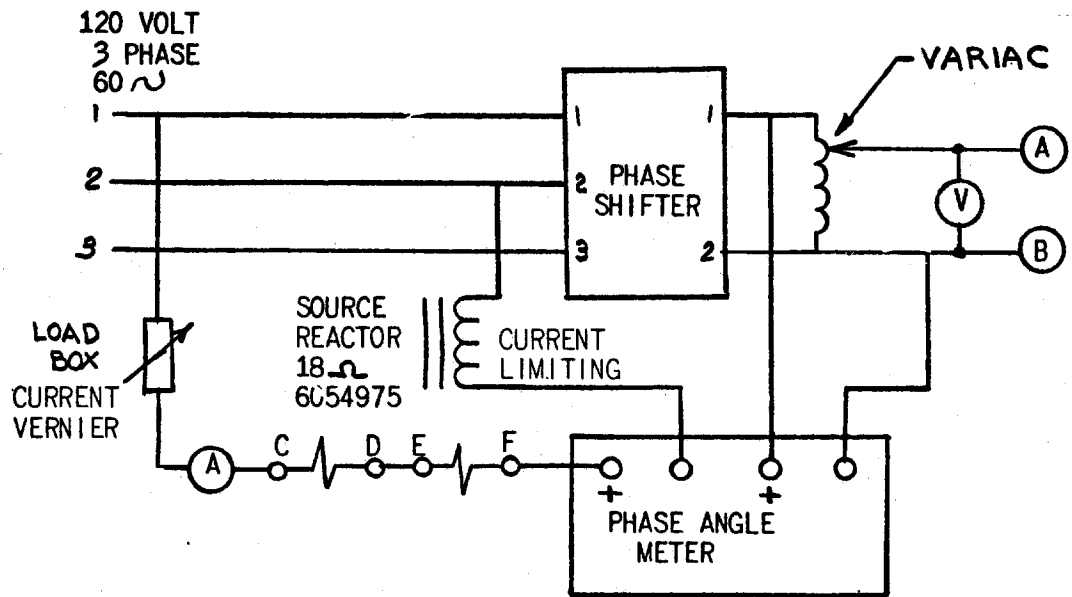

Fig. 14 (178A7029-3) Phase Shifter Test Circuit
As stated earlier the angle of maximum reach, ϕ , can be adjusted by changing the setting of plug X on the F126 printed circuit card. The angle is typically factory adjusted to produce a 75° angle of maximum reach. In the Type SLY51B relay the angle of maximum reach can be adjusted to 60°. A check of the angle of maximum reach can be made by using the test circuit of Figure 14. The recommended procedure is as follows:
- (a) Determine what test voltage V in Figure 14 is necessary to produce output at the relays maximum reach angle for 5 amperes of current, and the particular tap setting.
- (c) Adjust the variac in Figure 14 until the voltmeter reads 85% of the calculated voltage in equation (3).